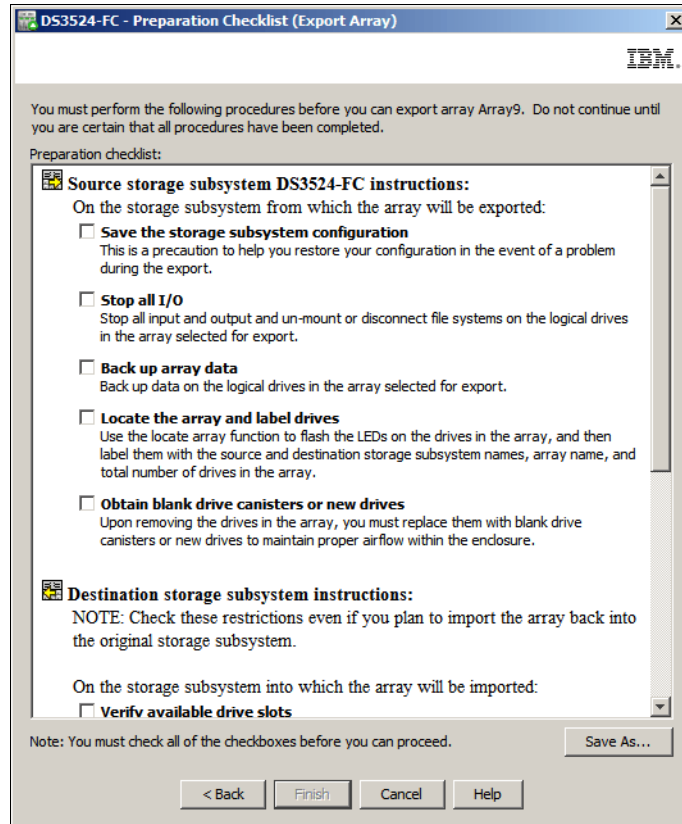
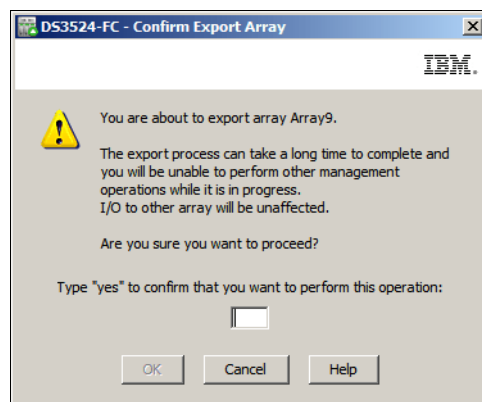

Figure 14-103 Preparation Checklist (Export Array)
Figure 14-104 Confirm Export Array
3. The **Preparation Checklist (Export Array)** window is displayed as shown in Figure 14-103 on page 395. This checklist lists the preparation instructions for both the source storage subsystem and destination storage subsystem. You can save the checklist to a text file for reference by clicking the **Save As** button. Select each procedure in the checklist as you complete the procedure. When all of the items in the checklist are completed, click the **Finish** button.
4. All the previously mentioned requirements for export of an array (steps 1, 2 and 3) must be confirmed by selecting all check boxes in the Preparation Checklist window (Figure 14-103), and then clicking **Next**. You will then be asked to confirm that you want to export the array, as shown in Figure 14-104. Type **yes** and click **OK** to export the array.